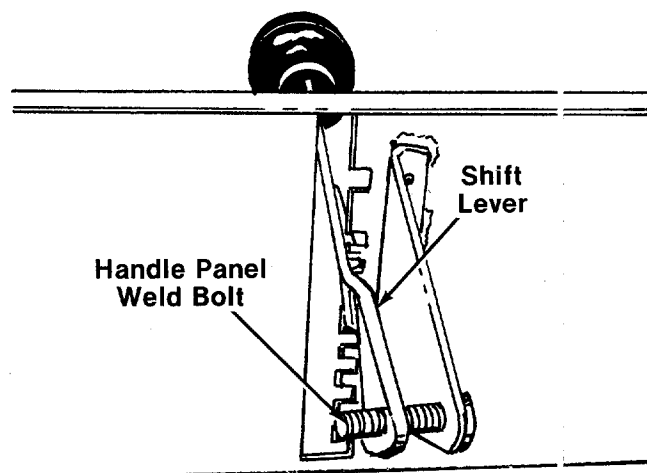

FIGURE 9.
14. Place shift lever (Q) through slot in handle panel, making sure flared edge of shift lever faces the detents on handle panel. Place the hole in the end of the shift lever over the handle panel weld bolt. See figure 9.